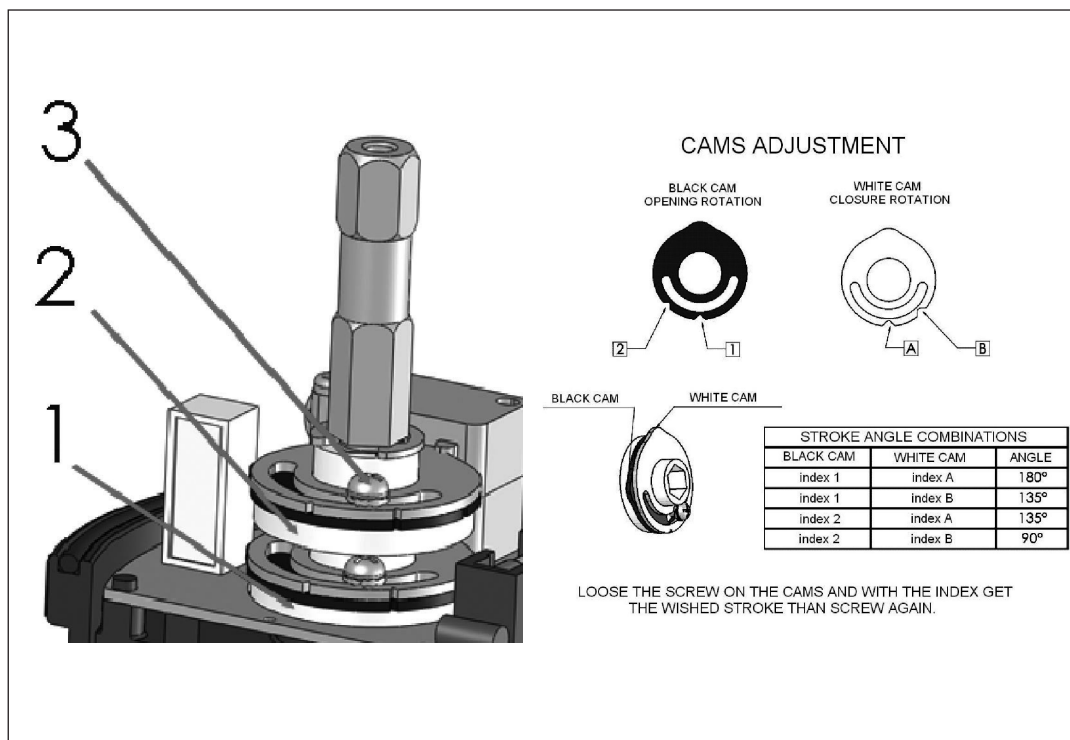

Fig. 6 . Cams of the limit switch
4.6 Adjustment of actuator stroke (fig.6)